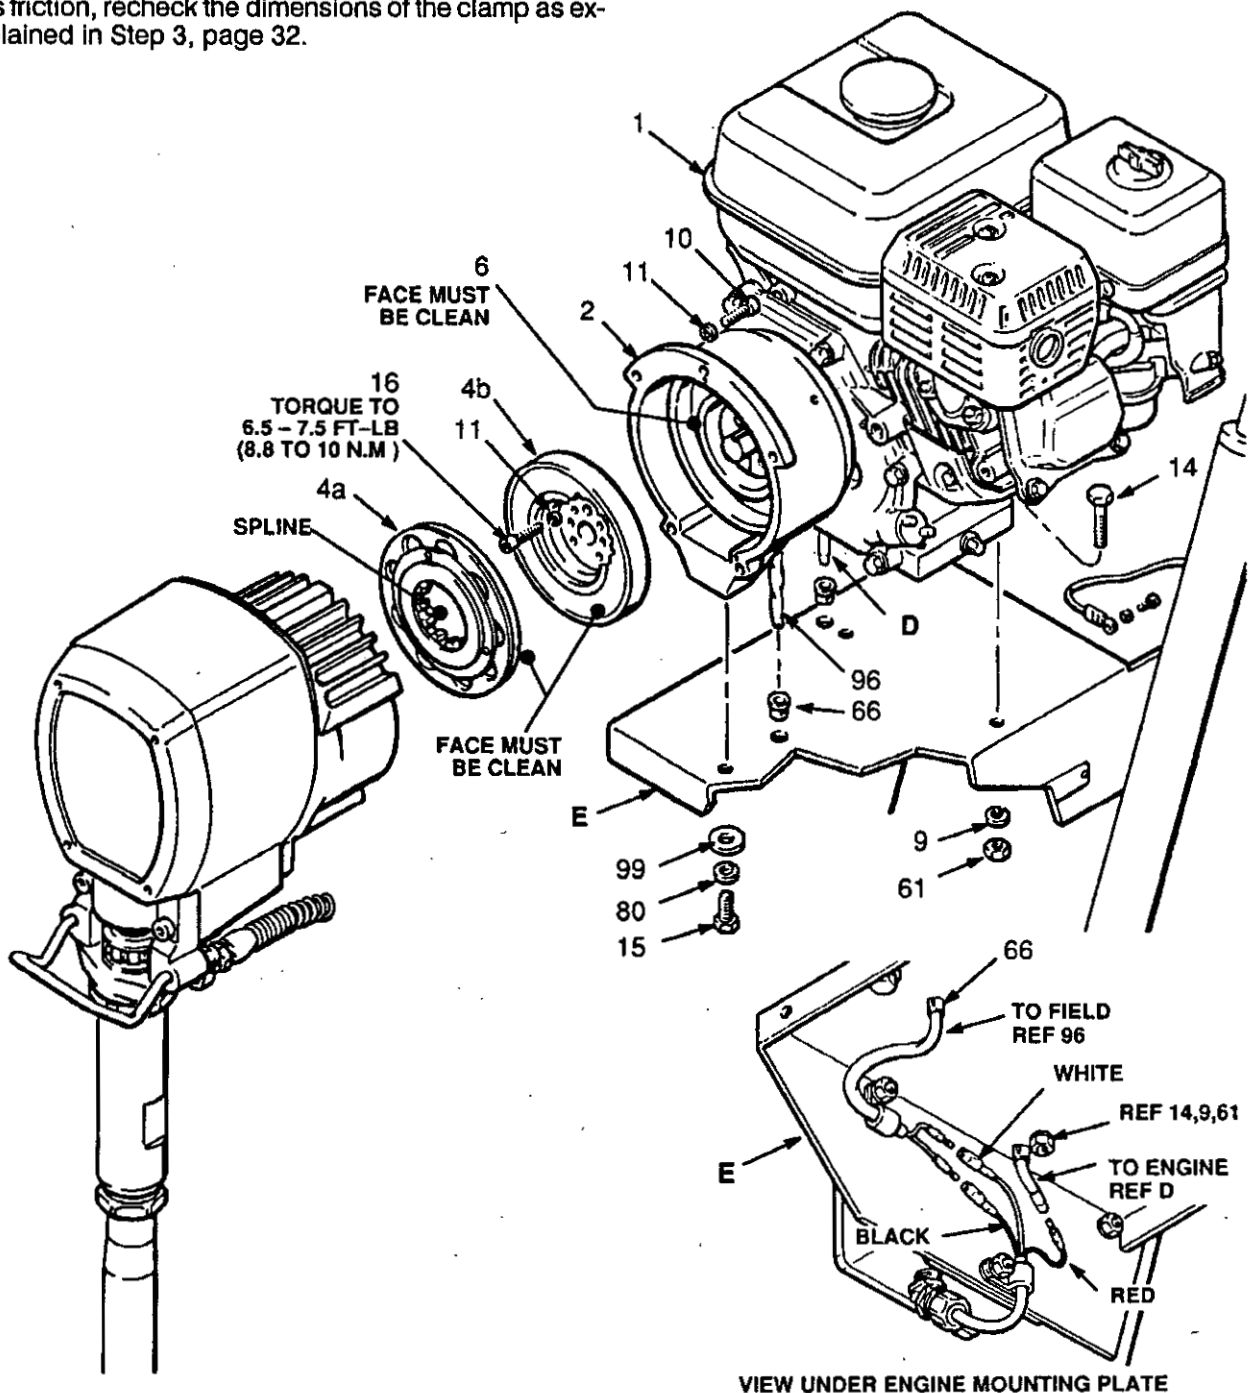

Fig 33-1
5. Place the **engine (1)** assembly on the cart. Align the mounting holes. Carefully guide the engine wire (D) and wiring harness (96) from the field, through the appropriate grommets (66) in the mounting plate (E). Install the capscrews (14), lockwashers (9) and nuts (61). Install the capscrews (15), lockwashers (80) and washer (99) from under the engine mounting plate to the clutch (2). Connect the engine wire (A) to the red wire, and connect the black and white wires as shown in the Detail drawing in Fig 33-1.
6. Be sure the face of the **rotor (4b)** and the field is free of all oil and contaminants. Install the rotor, lockwashers (11) and capscrews (16). Torque the capscrews to 6.5 to 7.5 ft-lb (8.8 to 10 N.m). See Fig 33-1.
7. Be sure the face of the **armature (4a)** is clean. Assemble the armature to the shaft in the pinion housing (19). A retaining ring located within the armature makes it difficult to assemble these parts. Follow this procedure for the best results. First, engage a few splines of both parts. While they are engaged, use a screwdriver to gently push the retaining ring into the armature, and finish engaging the splines. Push the armature onto the shaft until it contacts the ring (19m). See Fig 33-1.
8. Assemble the **pinion housing (19)** to the clutch housing, using the capscrews (10) and lockwashers (11). See Fig 33-1.